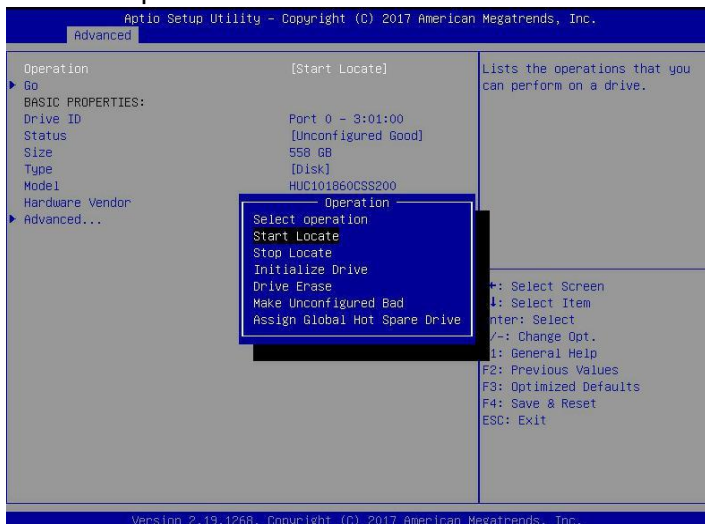

Figure 6-57
c) Enter the interface of Figure 6-57, select Operation, press Enter, and then select Start Locate in the pop-up dialog box, and press Enter.
❖ Figure 6-57 Operation interface